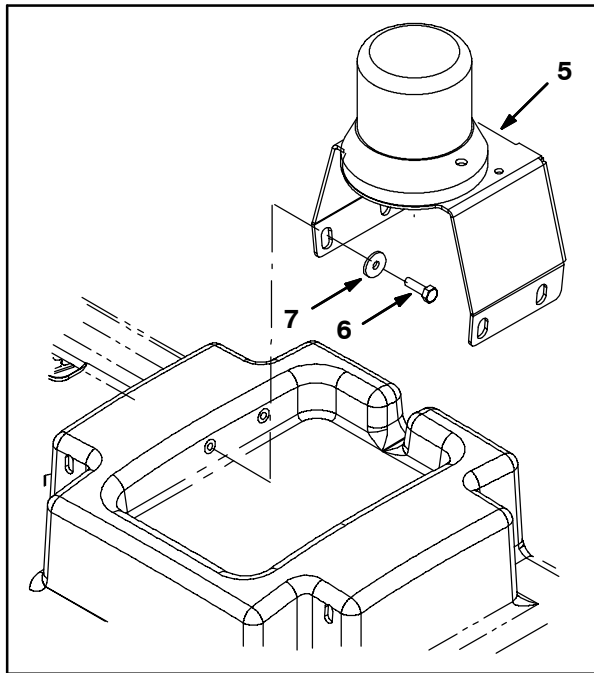

FIG. 6
6. Use three hex screws (6) and three flat washers (7) to install the bracket (5) onto the back of the machine. Refer to Fig. 6.